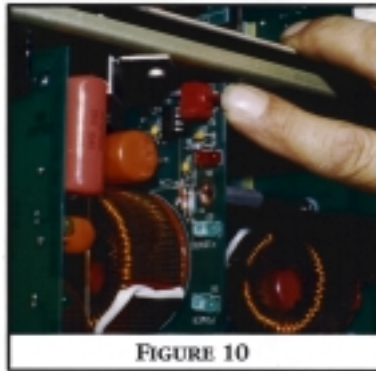

FIGURE 10
- Check the Power Amplifier Inhibit Switch operation on each Power Amplifier module by depressing the switch plunger. The Red **INHIBIT** LED should be **OFF** when the switch plunger is depressed (**See Figure 10**).
- ❑ Turn on the high voltage by depressing the **ON/RESET** button. Yellow **300 VDC** LED will come **ON**. While viewing the oscilloscope screen, carefully depress the Power Amplifier Inhibit Switch on one of the Amplifier Modules (See **Figure 10**). **Caution! Lethal Voltage is present on Amplifier Modules. Use Extreme Care.**